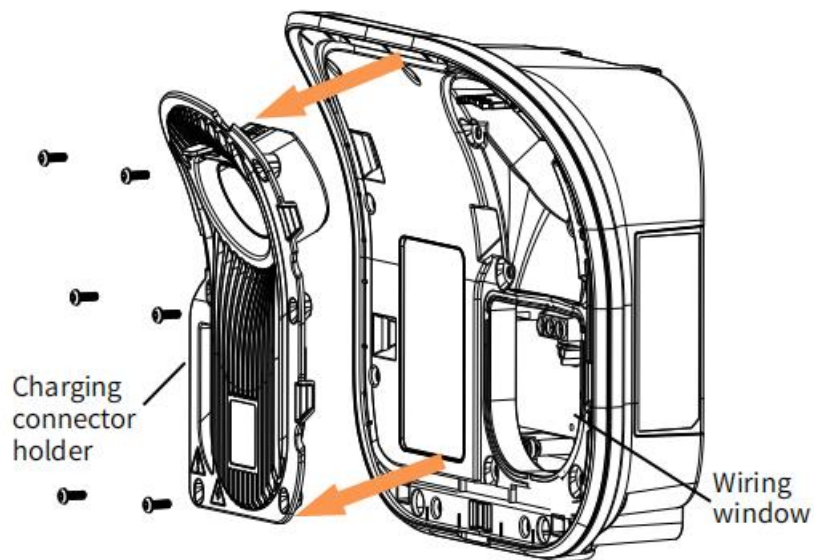

Figure 4-12 Remove the charging connector holder
- (4) Remove the 6 screws connecting the charging connector holder and the front cover, then remove the charging connector holder and prepare to connect the power cable from the wiring window, as shown in Figure 4-12.